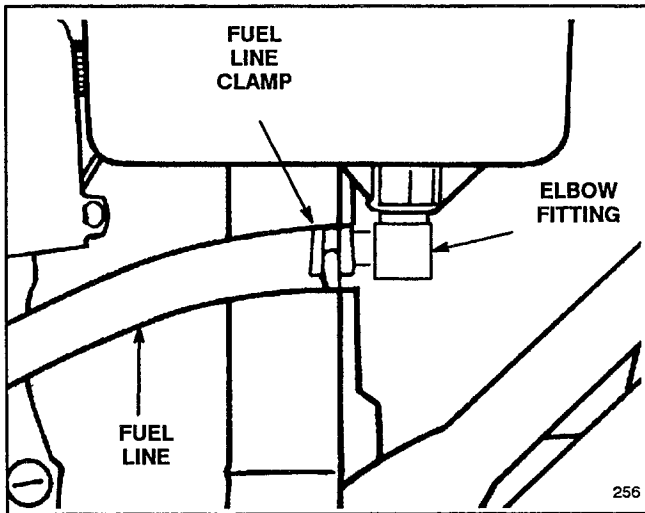

Figure 3
5. Slide end of fuel line onto elbow fitting. Secure in place with fuel line clamp (Fig. 3).